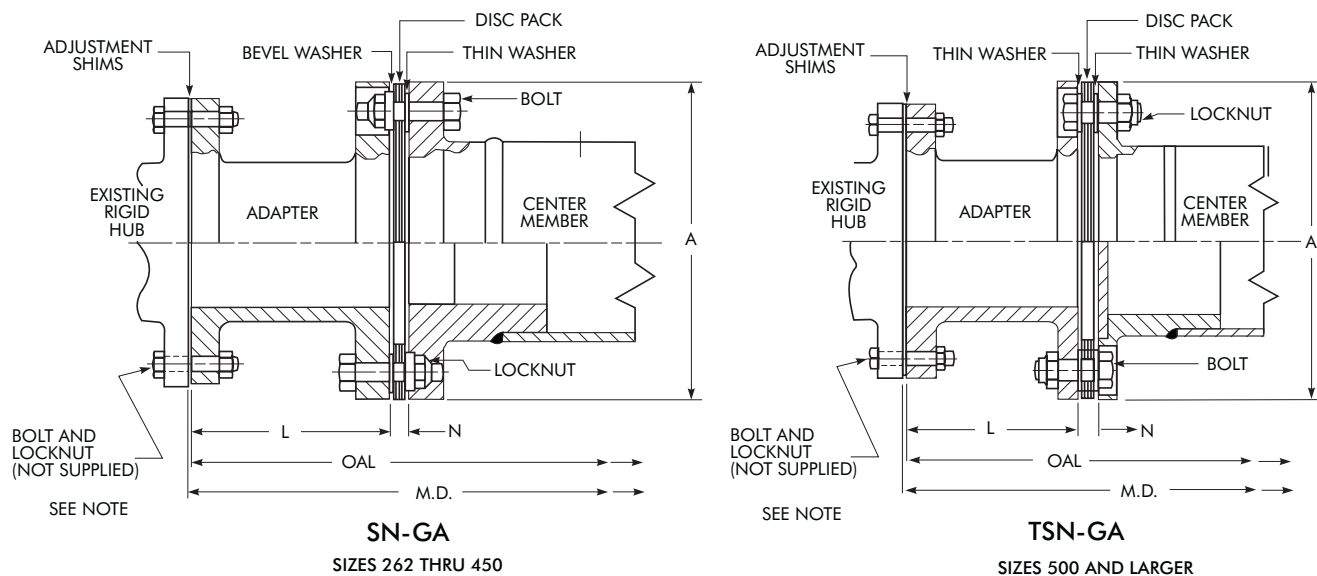

Figure 1
A. The coupling, as received, has all the disc pack bolt locknuts factory tightened and should not be disassembled. Measure the DBSE (Distance Between Shaft Ends) and the coupling OAL (Over All Length) to determine the number of adjustments shims required. Divide the shims between each end. See Figure 1.